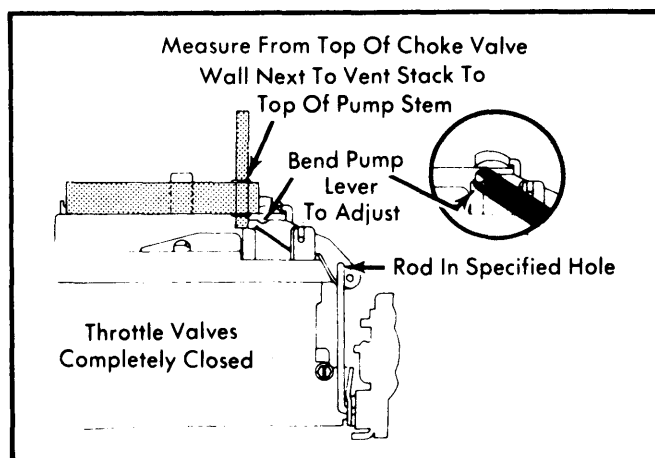

Fig. 3 Adjusting Accelerator Pump
1) Close throttle valves completely. Make sure fast idle speed screw is off fast idle cam. See Fig. 3.